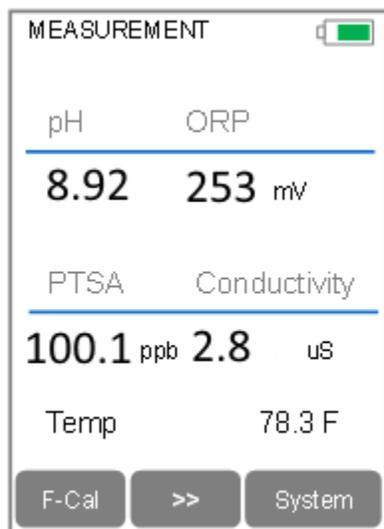

Figure 8
- 12) Press the Exit labeled key (OK) to return to the measurement screen. The screen will be similar to Figure 8. Slight variance in the PTSA value is not problematic. If Exit is done before the second checkmark appears, the calibration will not be completed and must be re-done.